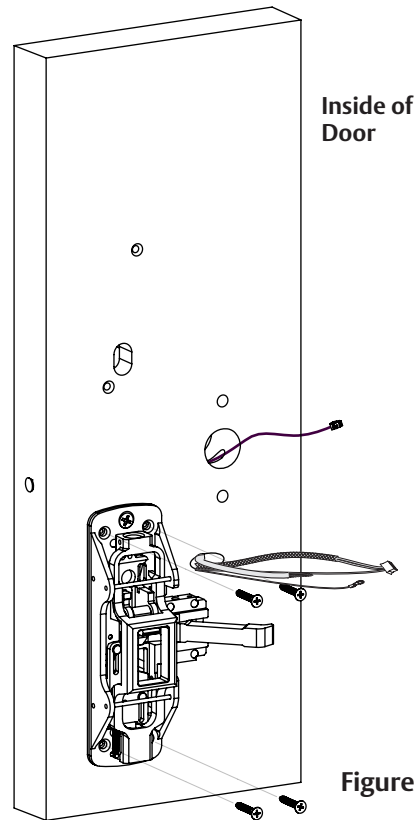

Figure 10-3C
5. Mount chassis to trim using two (2) #1/4-20 x 2-3/8" flat head machine screws.
6. Secure exit chassis (Figure 10-3C)